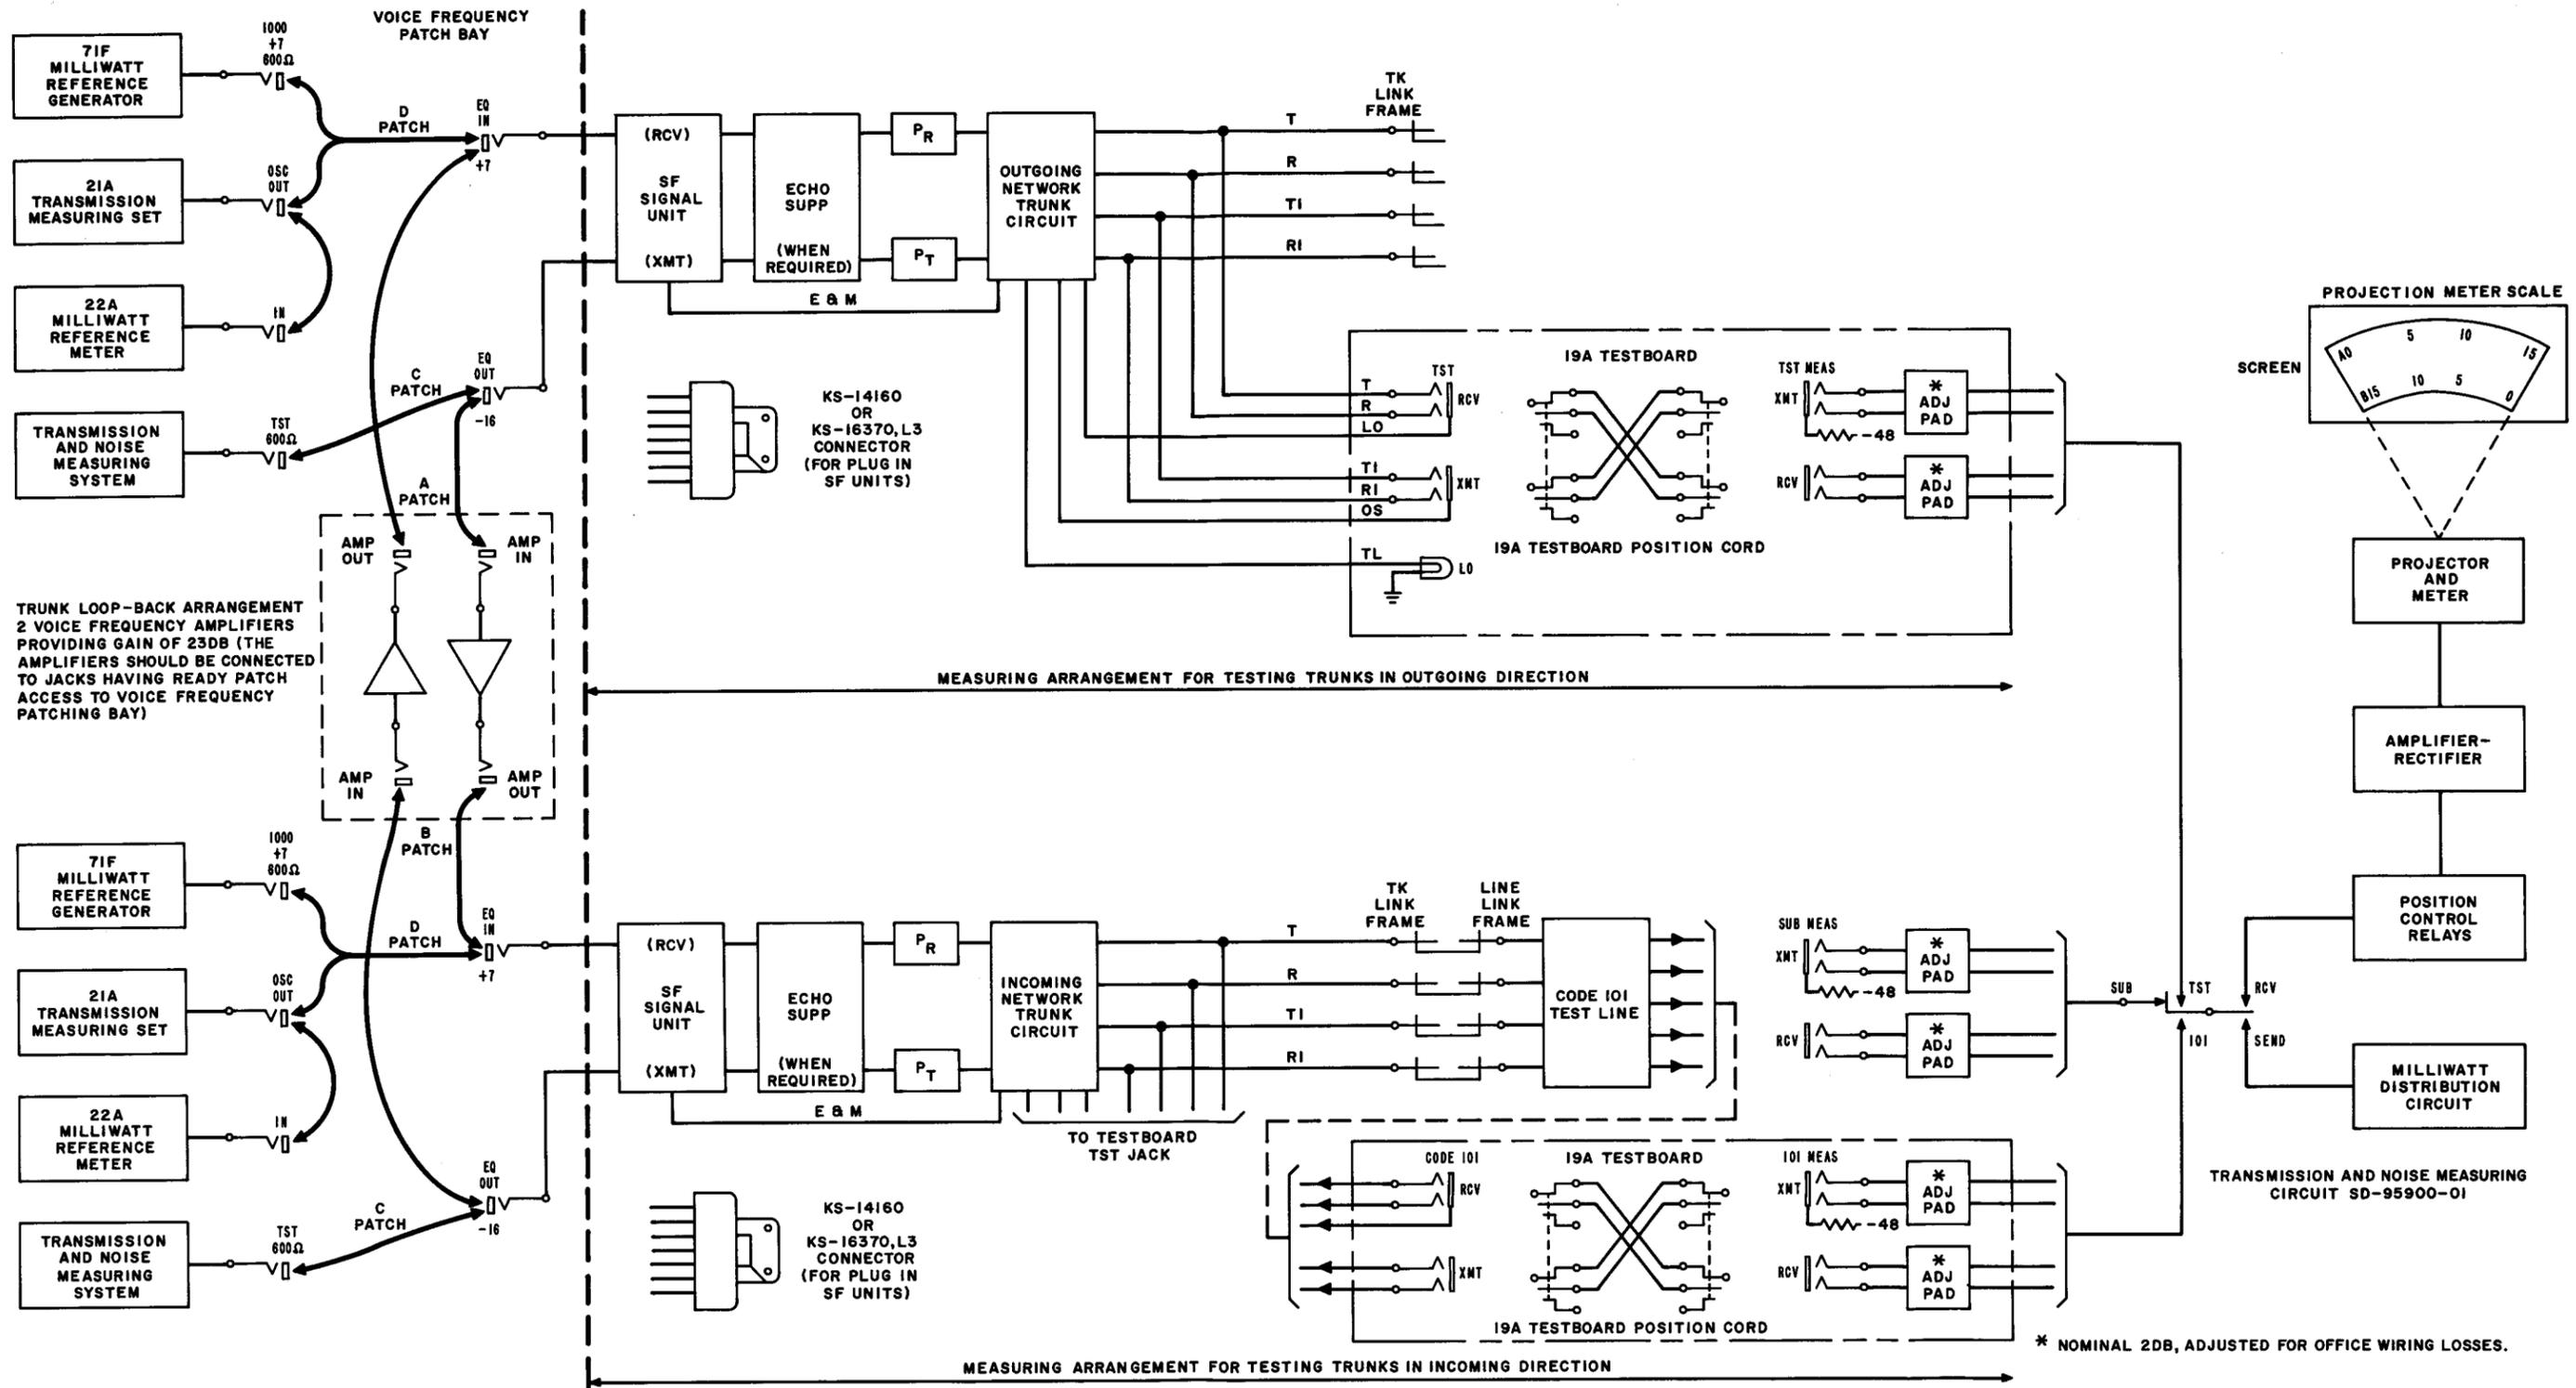

Fig. 1 — Measurement and Adjustment of Transmission Levels
**2.06** A typical arrangement for terminating trunks in the incoming or outgoing direction is shown in Fig. 1. Also shown is a loop-around arrangement which may be used to put the transmission and signaling circuits into the same final state in which they are normally placed on a completed call. The arrangement should be used only for setting up the test conditions and should not be used during actual transmission measurements. If this loop-around arrangement is not available, assistance is required from the distant office. The testing effort is confined, as much as possible, to the local office when these tests are made on a precutover basis, in advance of overall measurements with the distant office.
<p>Outgoing Measurement and Adjustment of Office Losses</p> <p>Note: Before beginning the test, make sure that test power outlets have been checked, that the transmission and noise measuring system has been calibrated, and that assigned circuit equipment is in place. The <math>P_T</math> and <math>P_R</math> pads must be equipped with 89-type resistors when measurements are made. If no previous adjustment has been made, a computed value may be used.</p> <p>1 Remove the outgoing trunk from service, if required. Terminate the MOD IN and DEMOD OUT jacks (vf patch or repeater bay) using 600-ohm terminations. If the loop-around arrangement shown in Fig. 1 is being used, remove the incoming trunk from service also and provide similar terminations.</p> <p>2 At the vf patch bay, make patch A to the outgoing trunk being tested and make patch B to the incoming trunk. Refer to Fig. 1.</p> <p>3 At the testboard, seize the outgoing trunk. With the TALK-MON key operated to TALK, insert a TST cord into the trunk TST jack and operate the SEIZE key.</p> <p>4 When the cord supervisory lamp is lighted, pulse forward code 101. When pulsing is completed, depress the ST key.</p> <p>5 Answer the incoming call at the testboard using the CONN cord of a separate cord pair. Connect the CONN cord to the 101 trunk jack. The answer lamp is extinguished.</p> <p>6 When an off-hook signal is observed on the TST cord supervisory lamp (lamp is extinguished), connect the associated CONN cord to the TST-MEAS jack. Operate the TST-101 key to the TST position.</p> <p>7 Return the TALK-MON key to the normal position.</p> <p>8 At the vf patch bay, remove the A and B patches. Terminate the EQ IN jack of the trunk under test, using a 600-ohm termination.</p> <p>9 Using a 2-conductor patch cord, connect the EQ OUT jack of the trunk under test to the TST 600<math>\Omega</math> jack.</p> <p>10 At the testboard, operate the SEND-RCV key to SEND.</p> <p>11 Operate the B+10 sensitivity key and observe the reading indicated on the measuring system meter. The difference between the value indicated and -16 dbm (or other value specified for the office) is the change in the loss of the <math>P_T</math> pad which must be made. If a change is required, replace the 89-type resistor with one which will bring the meter indication as close as possible to -16 dbm (<math>\pm 0.13</math> db). If a change of more than 1 db from the computed loss for the <math>P_T</math> pad is necessary, investigation should be made for trouble in equipment components.</p> <p>Note: If a plug-in SF signaling unit is used in the trunk under test, replace the unit with a zero loss connector, see 2.04. If a permanently mounted SF signaling unit is used, see 2.03.</p>
<p data-bbox="212 1266 886 1293">Incoming Measurement and Adjustment of Office Losses</p> <p data-bbox="212 1325 1349 1482">Note: Before beginning the test, make sure that test power outlets have been checked, that the transmission and noise measuring system has been calibrated, and that assigned circuit equipment is in place. The PT and PR pads must be equipped with 89-type resistors when measurements are made. If no previous adjustment has been made, a computed value may be used.</p> <p data-bbox="94 1518 1349 1581">1 Make A and B patches shown in Fig. 1, connecting an outgoing trunk to the incoming trunk to be tested.</p> <p data-bbox="94 1612 1349 1675">2 At the testboard, connect a TST cord to the outgoing trunk TST jack and operate the associated TALK-MON key to TALK. Operate the SEIZE key.</p> <p data-bbox="94 1707 1349 1770">3 When the cord supervisory lamp is lighted, pulse forward code 101. When pulsing is completed, depress the ST key.</p> <p data-bbox="212 1801 1349 1864">Note: If the loop-around arrangement shown in Fig. 1 is not available, the incoming trunk must be seized from the distant office.</p>
**3.04** The loop-around arrangement shown in Fig. 1, if available, may be used to condition the outgoing trunks and to seize incoming trunks. If this arrangement is not available, the incoming trunk to be tested must be seized from the distant office.
- 4.01 The trunk loop-around arrangement shown in Fig. 1 may be used for testing the signaling and supervision capabilities of trunk equipment on a precutover basis.
1	<p>With loop-around connections made as shown in Fig. 1, connect a TST cord to the trunk TST jack. Operate the TALK-MON key to TALK. Operate the SEIZE key. Connect a CONN cord to the incoming 101 trunk.</p>